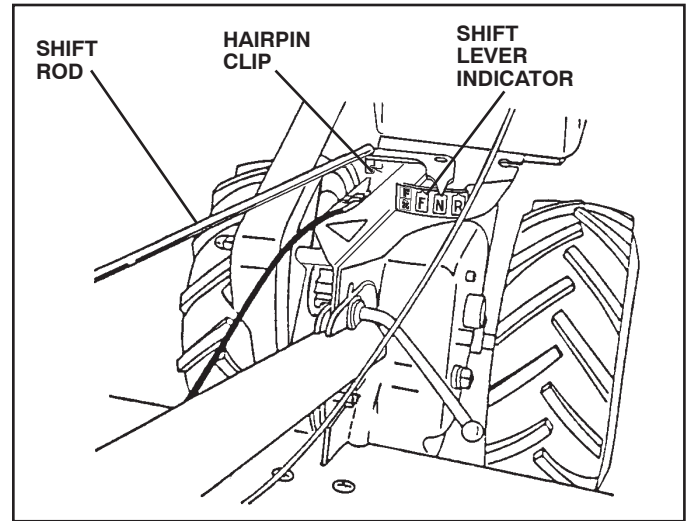

Fig. 7
## CONNECT SHIFT ROD (See Fig. 7)
- Make sure shift lever indicator is in "N" position (See Fig. 7)